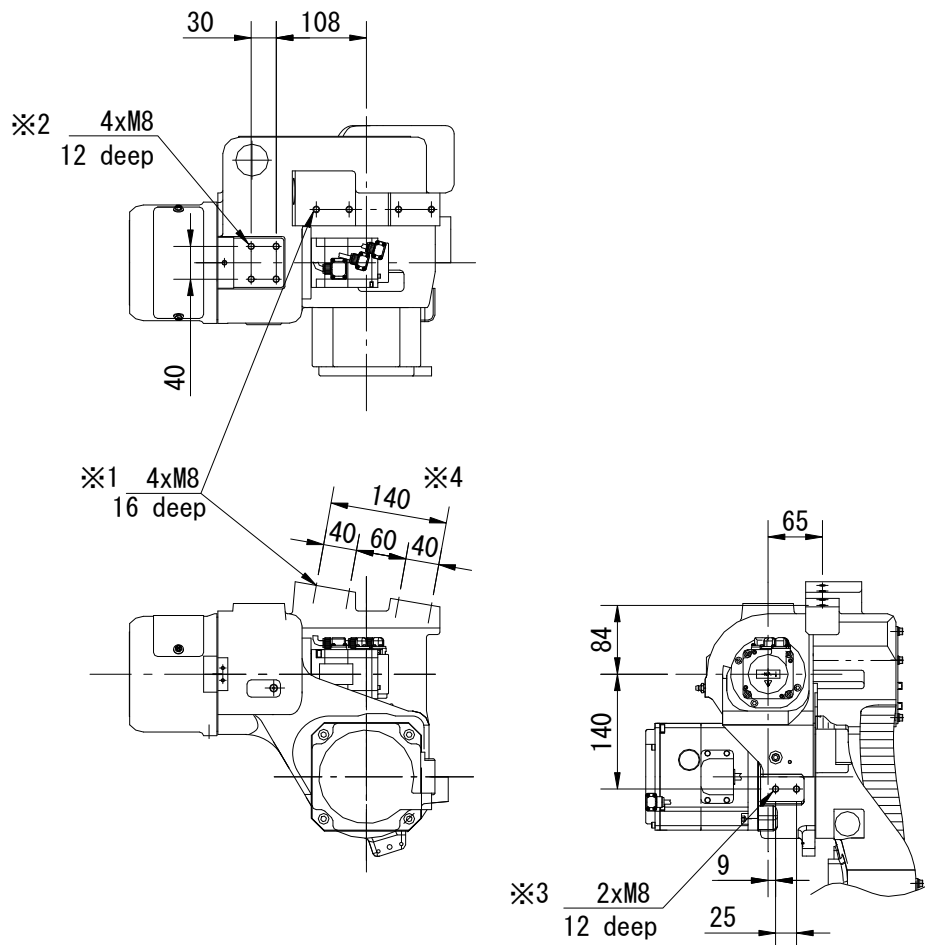

Fig. 2.1.7 Equipment Mounting Position on the Upper Arm of NV06-02 Manipulator (unit: mm)
The top of the upper arm is provided with the face to mount the equipment such as a wire feeding unit, gas solenoid valve etc. To mount the equipment, use 4XM8 holes (indicated by ※1 in Fig. 2.1.7) provided.
As for 4XM8 holes (indicated by ※2 in Fig. 2.1.7) in the front and 2XM8 holes (indicated by ※3 in Fig. 2.1.7) in the back, use them only for cable clamping or others that the large external force is not applied on.
- (b) The center-of-gravity position for mounting an equipment on the upper arm must be within the 140-mm pitch position (indicated by ※4 in Fig. 2.1.7) of 4XM8 tapping holes.